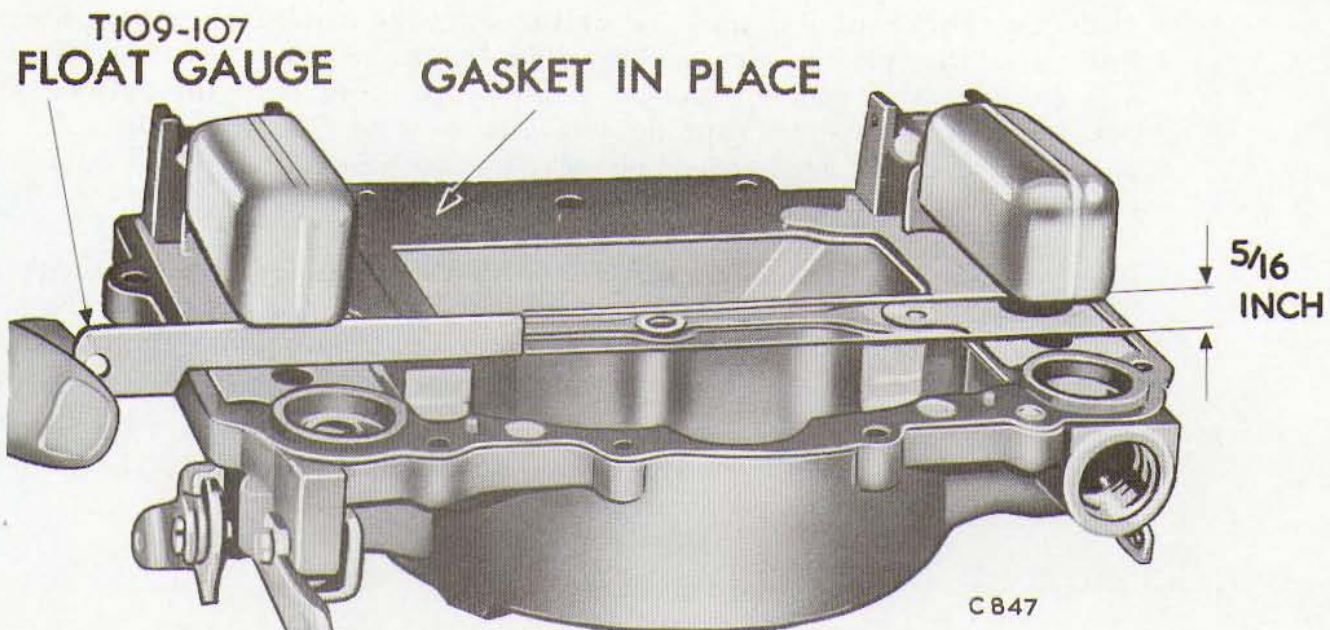

Fig. 17 Checking Float Height
- (1) With the air horn inverted, the air horn gasket in place and the float needle seated, slide the float gauge between the top of the float (at outer end) and the air horn gasket as shown in Fig.17. Float should just touch gauge.
- (2) Check the other float in the same manner. If an adjustment is necessary, bend the float arm using Tool T.109-22 until correct clearance has been obtained. After bending arm, re-check the float alignment.